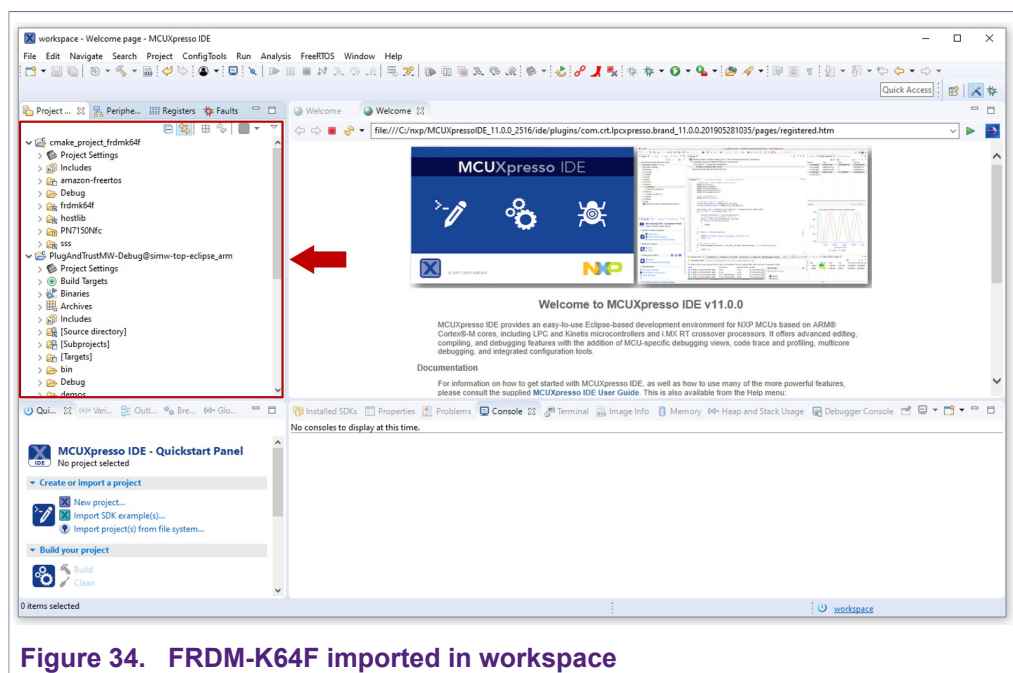

Figure 34. FRDM-K64F imported in workspace
5. Both The *PlugAndTrustMW* and *cmake\_projects\_frdm64f* projects should now be imported in your workspace as shown in Figure 34: